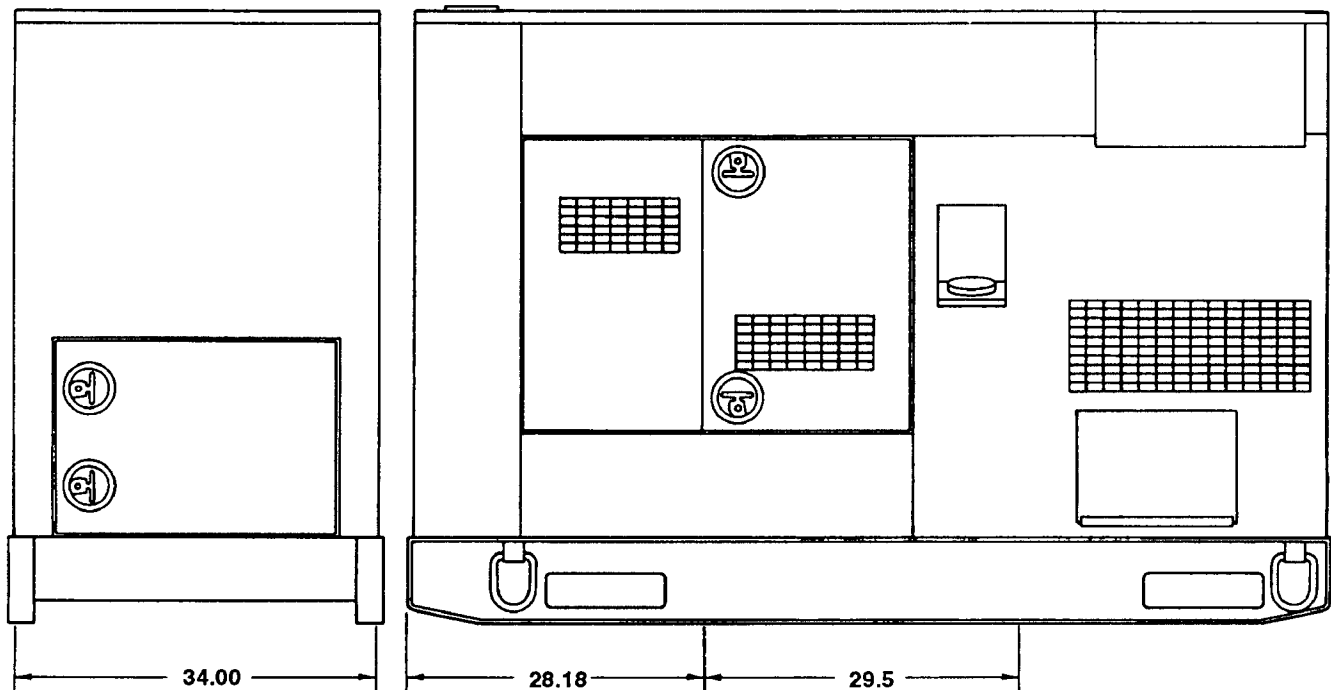

FIGURE 2-1. Base Mounting Measurements
- c. Refer to FIGURE 2-1 for base mounting measurements.